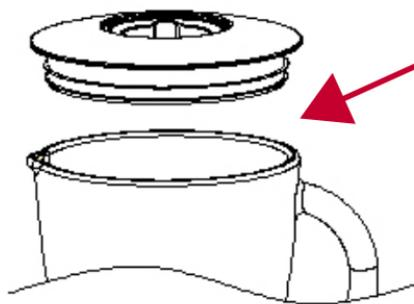

Fig. 6
2. Place them inside the jug (see Fig. 6). It is often necessary to add a certain amount of water in order to help the appliance to operate correctly. The ratio of fruit or vegetables to water is 2:3. The total volume of mixture must not exceed the maximum level indicated on the jug.